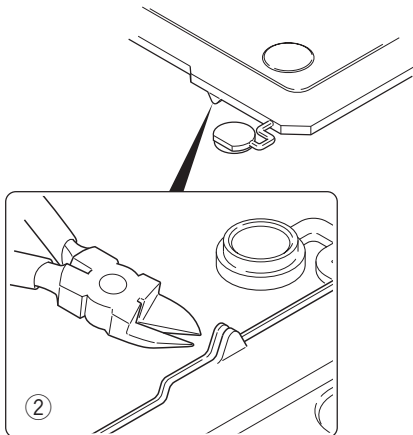

Fig. 9-3
**Note :** If the GPS receiver is installed, cut the base of the convex tab of the top packing with a pair of nippers, or similar tool. (Fig. 9-3 ②)